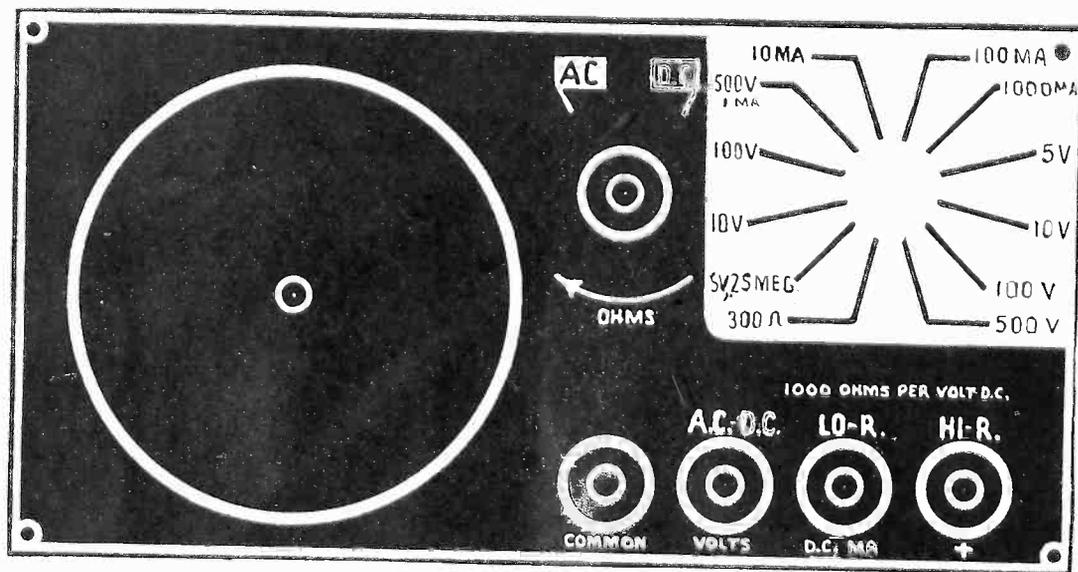

FIG. 2
**Volts:** Use the two left-hand tip jacks (Fig. 2) for reading all voltages. For a-c volts turn the ohms adjuster to extreme left, until switch snaps on, and ohms knob points to "A. C." For reading d-c volts turn ohms adjuster to the right, at or anywhere beyond the bar marked "D. C." In either case turn the selector switch to the desired range. The sensitivity on d. c. is 1,000 ohms per volt.